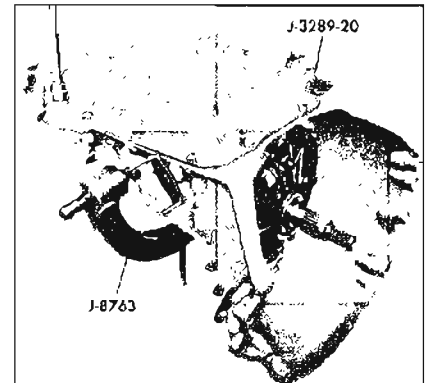

Figure 5-507
5. Remove bottom pan attaching screws. See Figure 5-507.